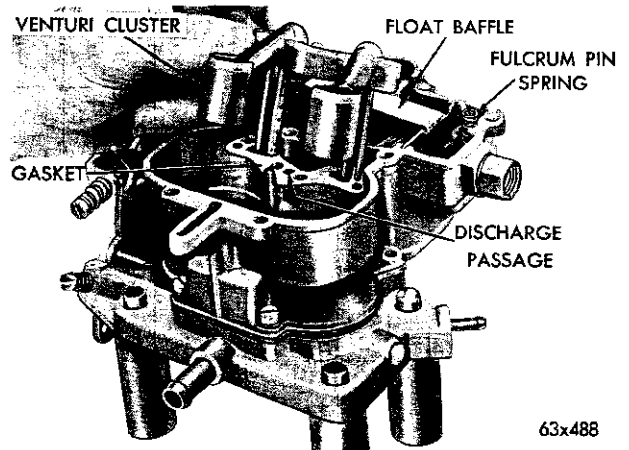

Fig. 6—Removing or Installing the Venturi Cluster
(1) Remove the venturi cluster attaching screws, the venturi cluster and gasket, as shown in Figure 6.
(3) Slide the float baffle up and out of its grooves, and remove the float and fulcrum pin.
(4) Invert the carburetor main body and drop out the discharge check ball from the discharge passage (Fig. 6), and the accelerator pump inlet check ball from the pump well.
(5) Install the venturi cluster gasket and slide the venturi cluster down into position (Fig. 6). Install attaching screws and tighten securely.